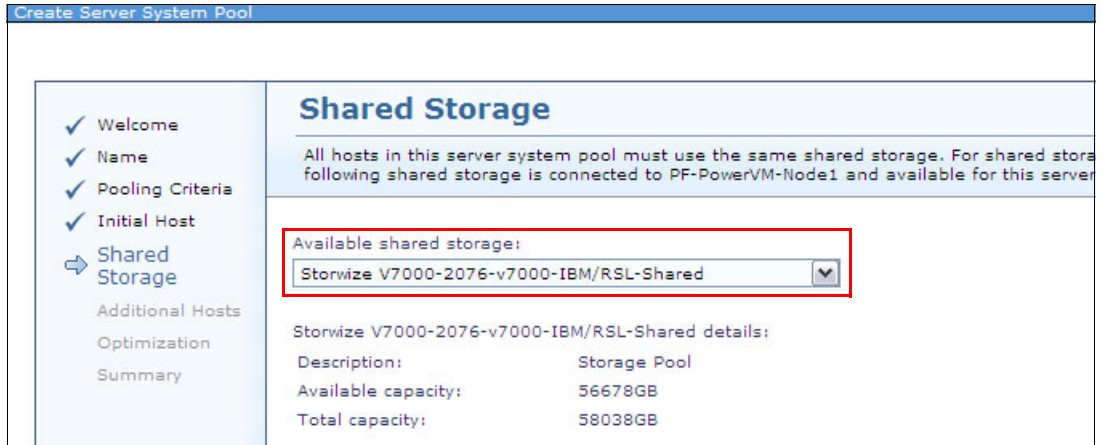

Figure 10-106 Selecting a storage pool
5. Select a storage pool that you want to use as shown in Figure 10-106. If you define more storage pools, you will see more storage pools in this window.